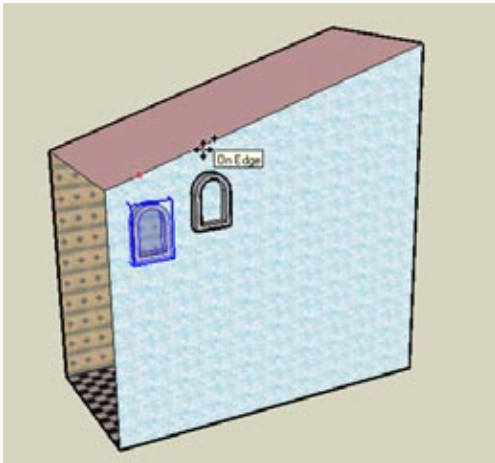

Figure 1-36
2. Select the window and activate Move. Press Ctrl/Option. For the move distance and direction, click two points along the sloped edge, as shown in Figure 1-36. (If your window jumps to the wrong face, wiggle the mouse to tweak it into place.)